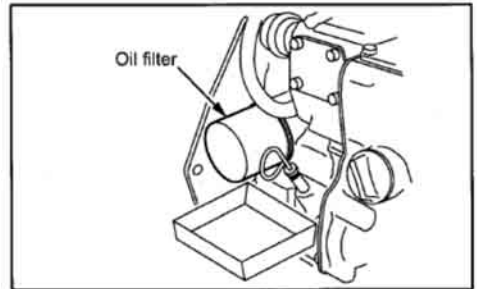

Fig.10.2. Changing oil filter
- Changing engine oil and oil filter (Fig.10.2.)
- Changing engine and oil filter (Fig.10.2.)